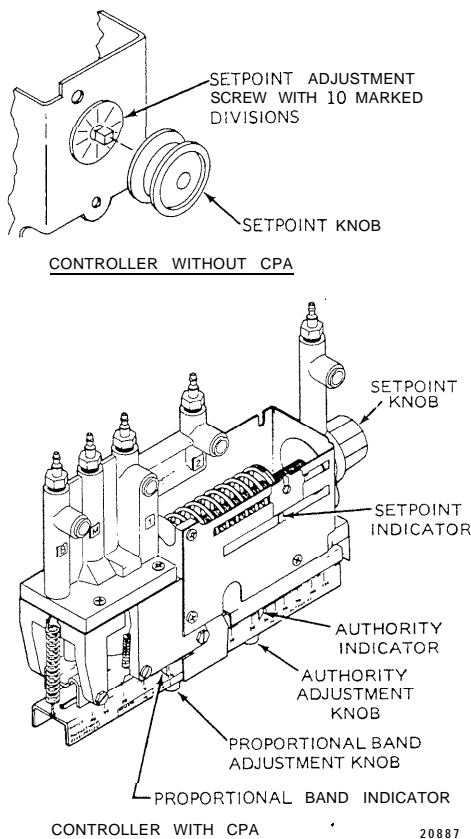

Fig. 7. RP908 Adjustment Locations.
1. Loosen the Proportional Band Adjustment Knob (Fig. 7) and slide the Proportional Band Indicator to the desired setting.
The setpoint is raised by turning the Setpoint Knob (Fig. 7) counterclockwise. This increases the force from the setpoint spring on the lever assembly so that a greater force from the sensor chamber is required to cause an increase in branchline pressure.